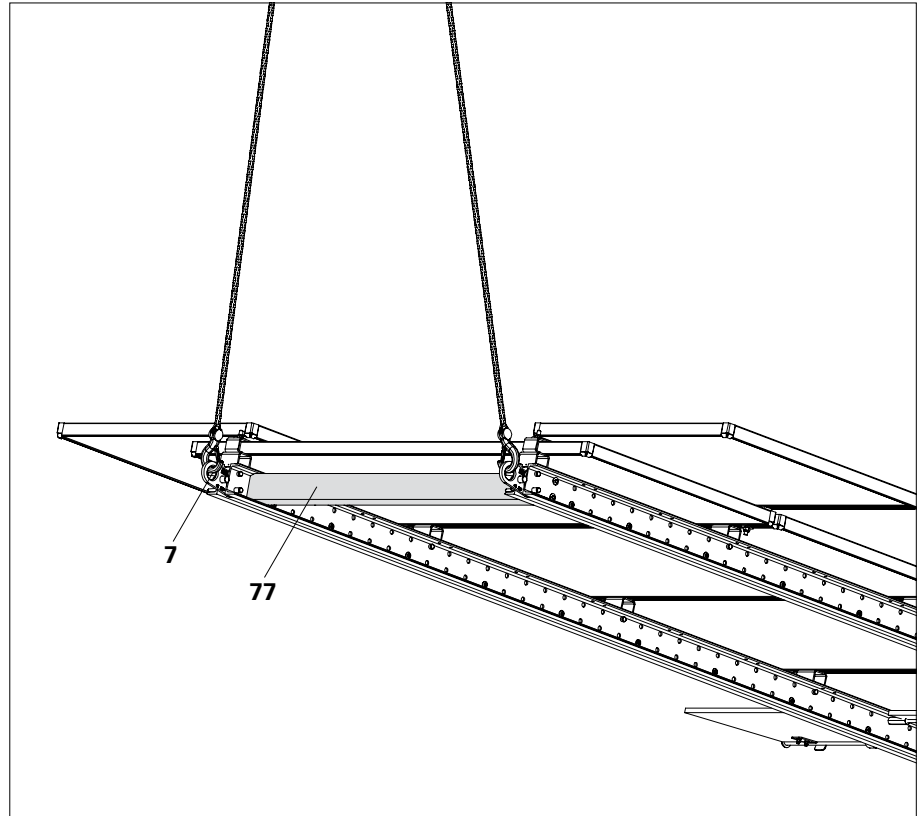

Fig. C3.01
6. Align and lift the climbing unit. (Fig. C3.01)